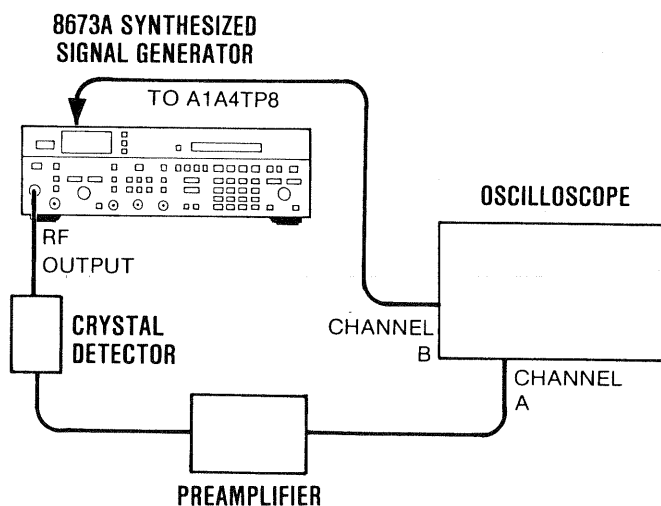

Figure 5-31. ALC Sample Pulse Test Setup
27. Connect channel A of the oscilloscope to the preamplifier output as shown in Figure 5-31.